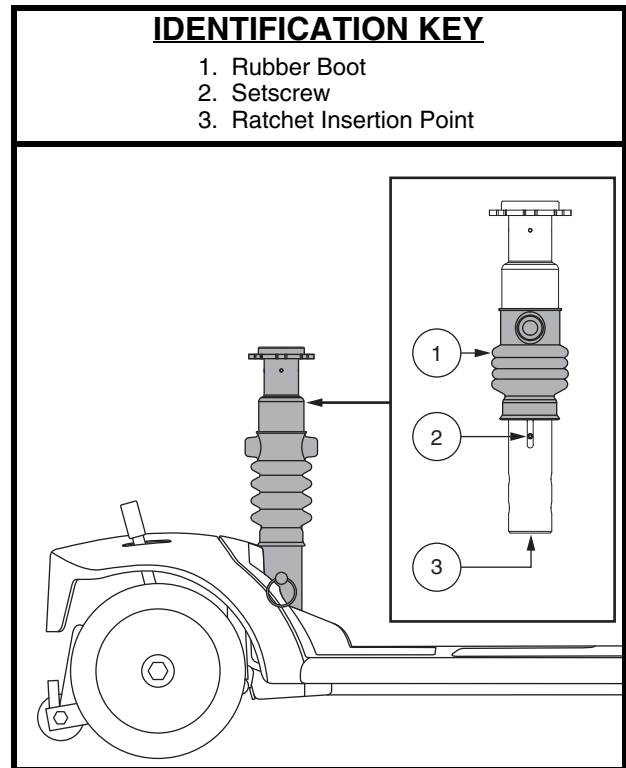

Figure 20. Seat Suspension Adjustment
The seat post acts as a shock absorber and can be adjusted for different degrees of ride comfort. Use the set screws that are visible through the adjustment window on the side of the post as a guide when making adjustments. Slide the rubber boot towards the top of the post to expose the setscrews. See **figure 20**.
3. Insert a 13 mm socket with an extension into the bottom of the post. See **figure 20**.